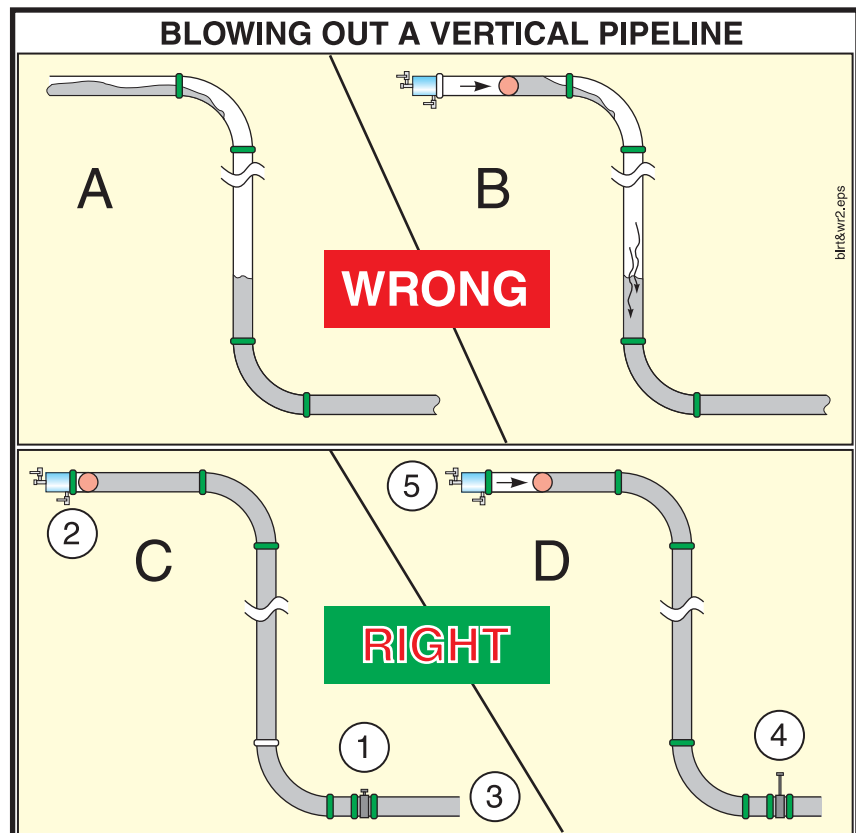

Figure 65
1. (See diagram A in Figure 65.) Without a shutoff valve installed, the pipeline is disconnected from the pump. Immediately, the concrete drains out of the vertical sections of pipe, leaving concrete in both horizontal sections, and air trapped in between.
2. (See diagram B in Figure 65.) The ball is inserted, and pushed with compressed air. This also compresses the air that is trapped in the vertical sections
4. **When pumping is complete, close the shutoff valve before disconnecting the pipeline from the pump** (item 1, Figure 65). Failure to do this will cause the concrete to fall out of the vertical sections of pipe, leaving concrete in the horizontal sections of pipe and an air pocket in the vertical sections. This does not apply if you are using a switching (diversion) valve.
5. Install the ball(s) in the pipeline, secure the blow out head and hook up the air compressor. **Do not apply the air yet!** (Item 2, Figure 65.)
7. **Position the ready mix truck at the cleanout standpipe,** or install the ball catcher or other containment device at the end of the discharge line. (Item 3, Figure 65.)
9. **Divert the vertical pipe line to the clean out area, or open the shutoff valve in the delivery pipe line now.** (Figure 66.) Allow gravity to start the concrete moving through the discharge line. As the concrete falls from the vertical sections, it will take the ball with it, making it impossible to trap air in the line. (Item 4, Figure 65.)
10. **Apply the compressed air to the pipeline.** Close communications must be maintained at this time. Add only enough air to keep the concrete moving. Do not allow the concrete to accelerate. (Item 5, Figure 65.)